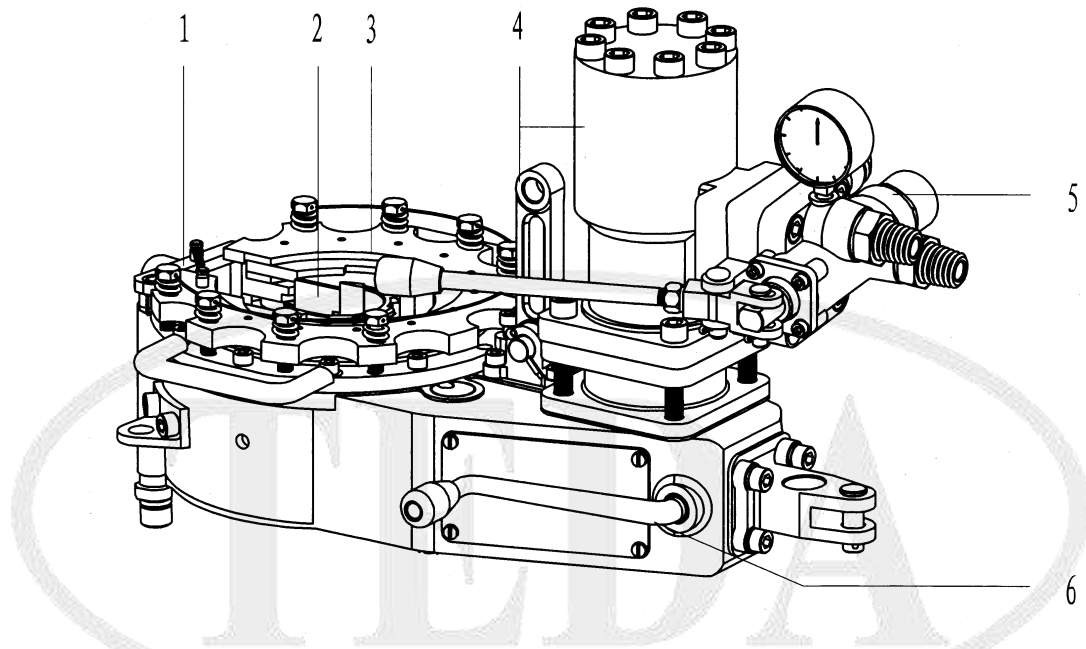

Fig. 4 Master tong
9.2 Master tong and parts list (Fig.4,Table 2)